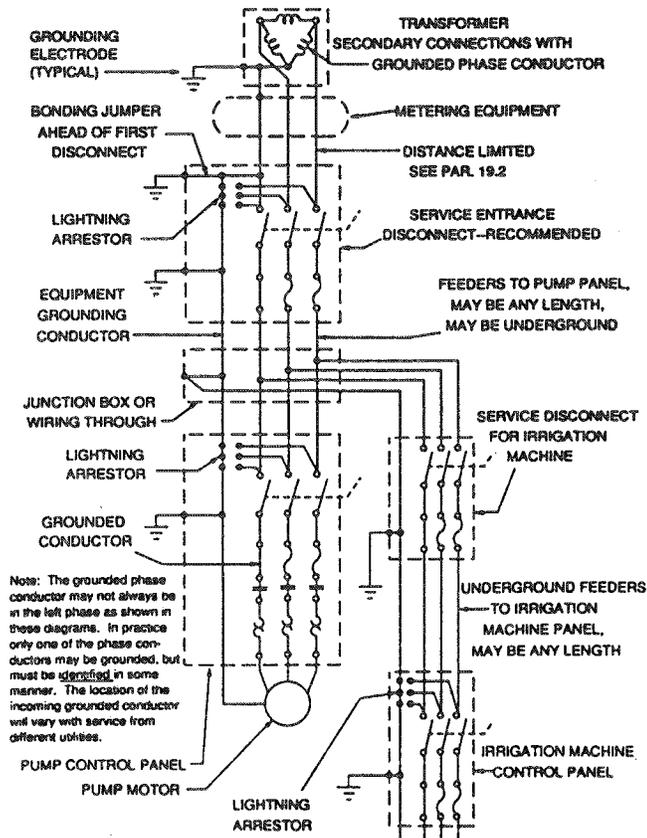

Figure 7 – Recommended equipment and grounding of three-phase, three-wire service when one of the phase conductors is grounded
19.1 When systems are provided with three-phase, three-wire service with a grounded phase, a bonding jumper shall be installed at the first disconnecting means as shown in figure 7. The bonding jumper shall connect the grounding conductor to the grounded (identified) conductor ahead of the disconnecting means.